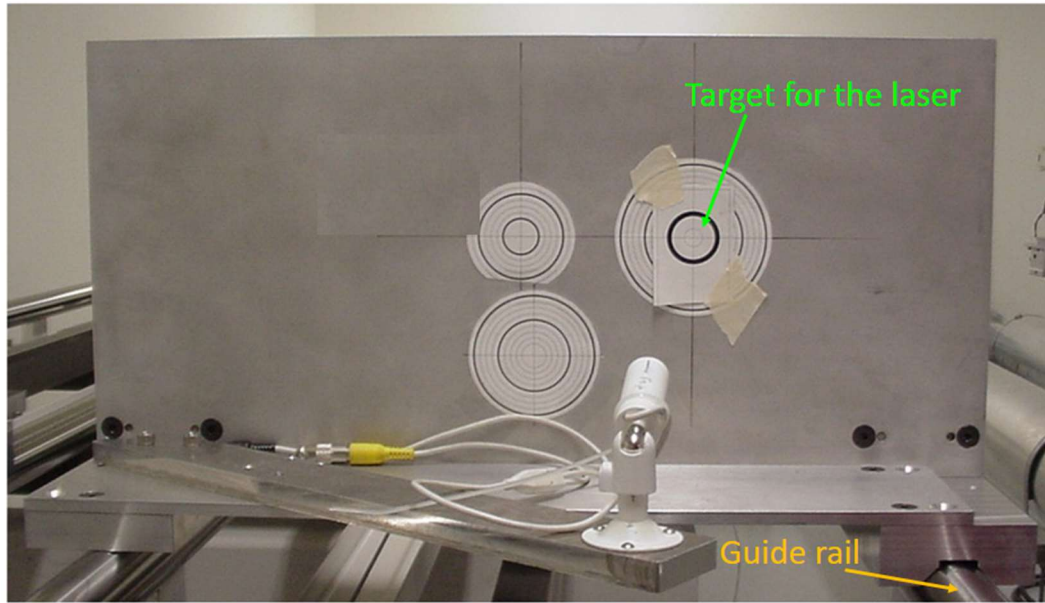

Figure 4. The back rail target.
4. The OPLE cart has to be on the back switch. Place the back rail target just in front of the cart. The back rail target has to be placed just like the front rail target, V-groove on the guide rail. The back rail target is similar to the front one, except there are no apertures cut in this target (Figure 4).
3. Place the back rail target (Figure 4) over the home sensor, open the laser shutter, laser ND=0, and create comfortable ambient lighting to be able to see well the target and the laser at the same time. Adjust the auxiliary iris to have an easy-to-use diffraction pattern.
4. Ideally, the laser should be right on target at this point of the rail; if not, repeat steps 4.1.1 through 4.1.3. except use the back rail target (Figure 4) this time.